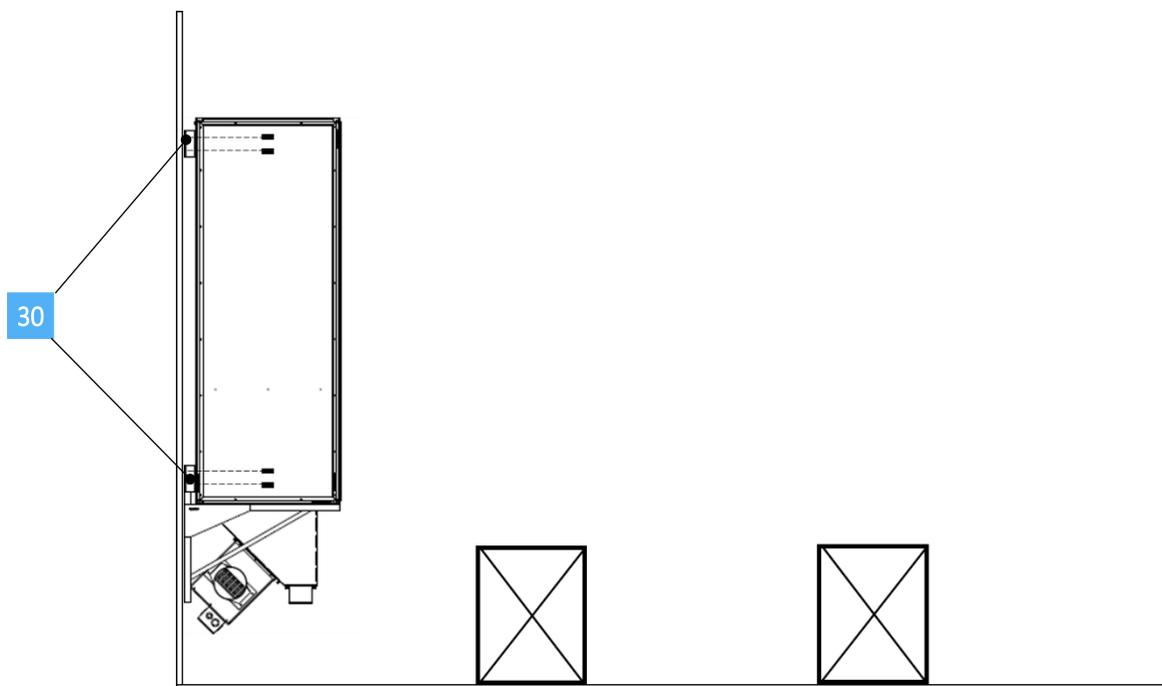

Fig. 34 *Lifting of the dark box: Phase 3*
- 3 Fix to the wall the four plates [30] mounted on the dark-box using M12 dowels previously insert in the wall (figure 34).
- 2 Take laminated mirror [33] (PN 03-00012-01) (2 people are necessary for its moving) and clean it as indicated in Paragraph 5.2. Put mirror [33] into frame [34] (with the reflective face facing the ground) inserting the mirror protruding part in the cut edge of the frame (detail in Figure 34). Then insert frame [35] into frame [34], block the mirror using provided M4 bolts, and place protective mat [36] (PN 73-00171-01) over it.